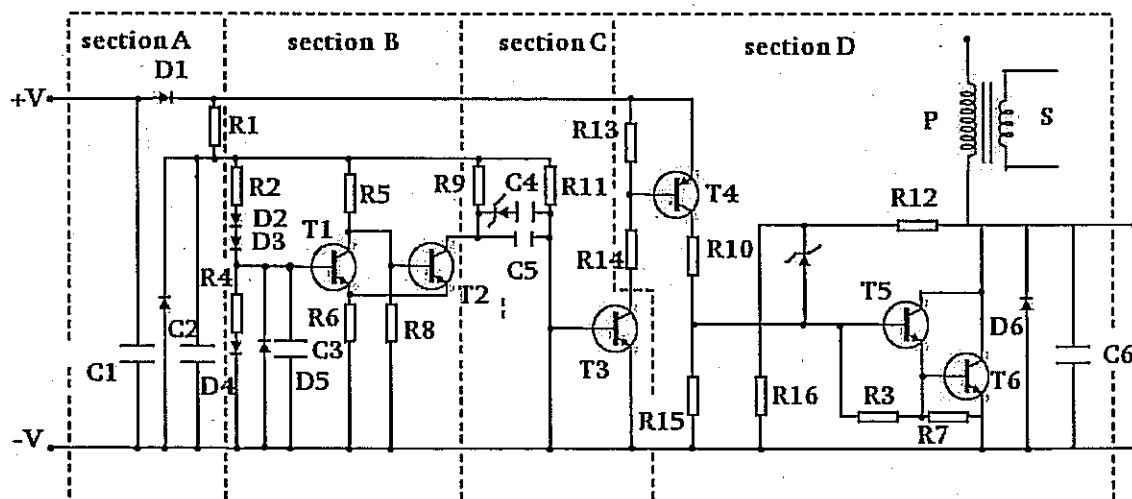

Figure Q1
Figure Q1 shows a complete circuit diagram of electronic ignition system with magnetic reluctor generator.
- iv) State the functional operation of the section B in Figure Q1 and briefly explain the electronic operation of the section B.
- v) State the functional operation of the section D in Figure Q1 and briefly explain the electronic operation of the section D.